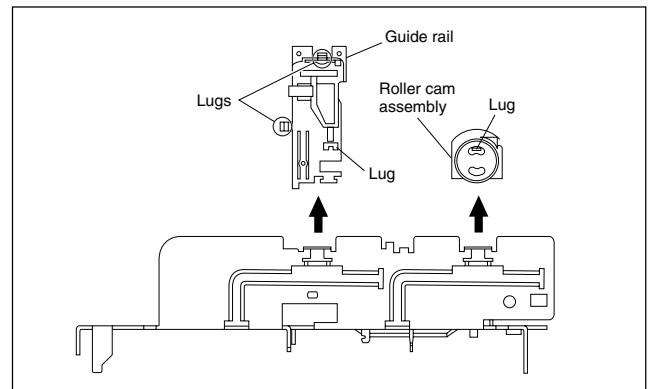

Fig. 2-2-3a
(1) Remove the guide rail and roller cam assembly. (See Fig.2-2-3a.)
(3) Lugs on the guide rail and one lug on the roller cam assembly